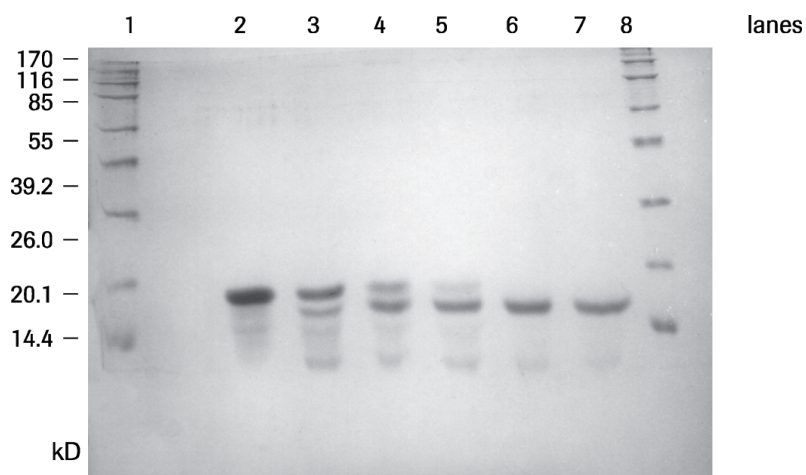

Fig. 1: Cleavage of a fusion protein with Enterokinase. Incubation was carried out in 50 mM Tris buffer, pH 8.0, as described in the pilot experiments.
- 9 Analyze the samples of the experiments, the corresponding control incubations, and a sample of uncut fusion protein on a SDS-PAGE gel (Fig. 1).